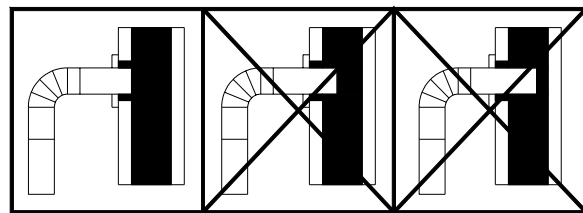

FIG. 5
The masonry chimney must comply with UL codes. Before using an existing masonry chimney, clean the chimney and inspect the flue liner to be sure it is safe to use. Make repairs before attaching the heater. See Page 3, Item 5. Look at Fig. 5. The connector pipe and fittings you will need to connect directly to a masonry chimney are shown. If the connector pipe must go through a combustible wall before entering the chimney, consult a qualified mason or chimney dealer. The installation must conform to local fire codes, and NFPA 211. Do not connect this heater into the same chimney flue as the fireplace or flue from another heater. The chimney used for a heater must not be used to ventilate the cellar or basement. If there is a cleanout opening at the base of the chimney, close it tightly.
4. The pipe cannot extend into the chimney flue.(Fig. 5)
7. It is recommended that no more than two (2) 90 degree bends be used in the stove pipe installation as more than two (2) may decrease the amount of draw and possibly cause smoke spillage.
1. The connector pipe may push into the chimney too far, stopping the draft. (Fig. 5)